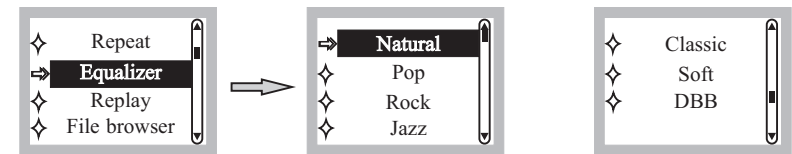

Fig. 13
(G) Equalizer Mode, Fig. 13:
- (1) Press PRV/TEN or NEXT/ TEN to select parameter.
- (2) Press PLAY/PAUSE to confirm.
- (3) Natural: Normal → POP Pop: Popular → ROCK Rock: Rock →